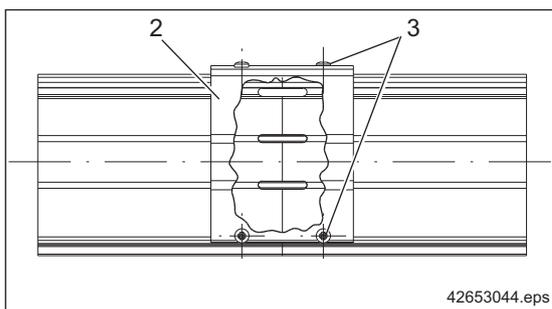

Fig. 47
To do this, bolt connector covers (2), ⇒ Fig. 47, Page 48 to enclosure profile sections (3).